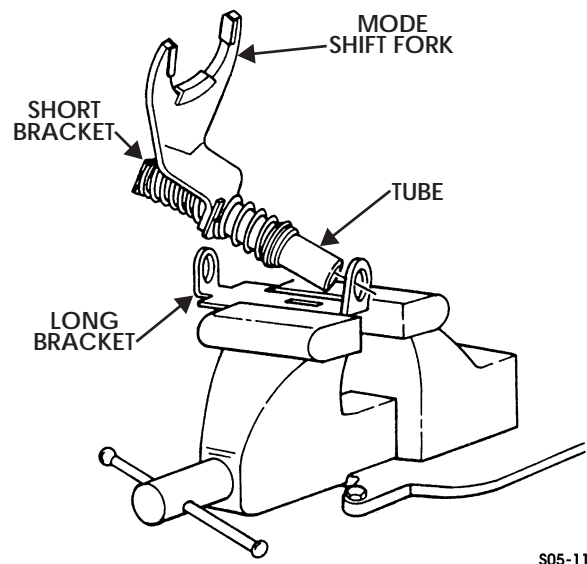

Figure 5-165: Fork Assembly
1. Position mode shift fork assembly in vise, with jaws clamped on long bracket only (Figure 5-165).
NOTE: Assemble parts named and use technique shown in illustrations (Figures 5-165 and 5-166).